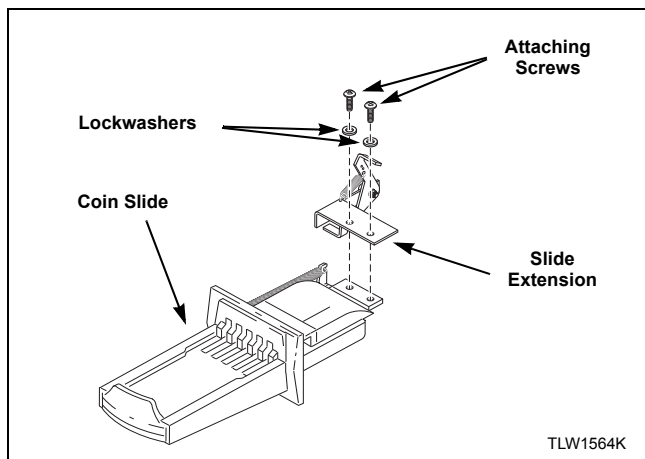

Figure 19
1. Install slide extension onto top of coin slide using two remaining screws and lockwashers. Refer to *Figure 19*.
3. Install slide extension onto top of coin slide using two screws and lockwashers. Refer to *Figure 19*.